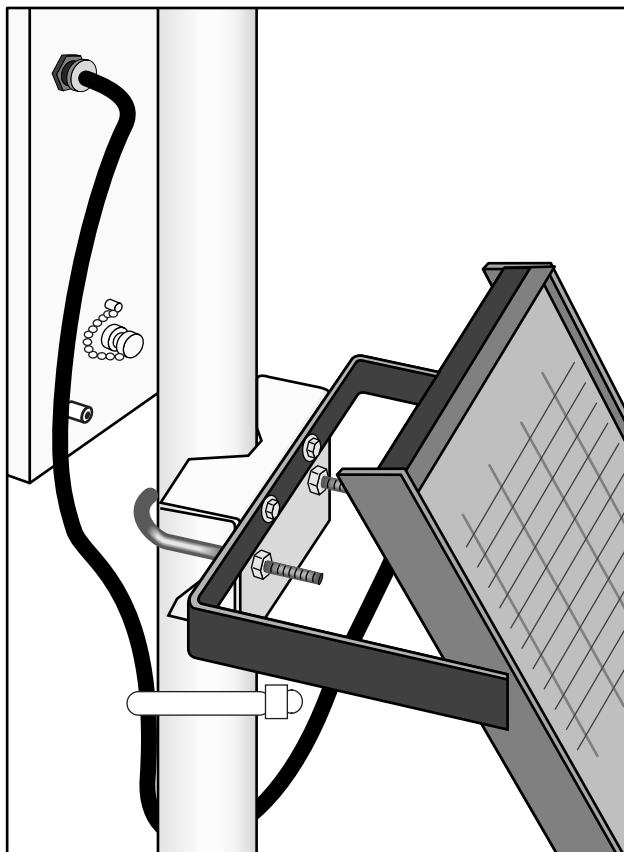

*FIGURE 2.6-2. Grounding to Lightning Rod Clamp*
2. Strip 2.54 cm (1") from the top of the main green 10 AWG tower ground wire. Insert the exposed wire into the empty clamp opening. Do not tighten the screw at this time (see Figure 2.6-2).
3. Strip 2.54 cm (1") from both ends of the 9" (23 cm) piece of 10 AWG green ground wire. Insert one end into the enclosure ground lug located at the top back of the enclosure. Put the other end in the same clamp opening as the main grounding wire and tighten down the screw (see Figure 2.6-2).